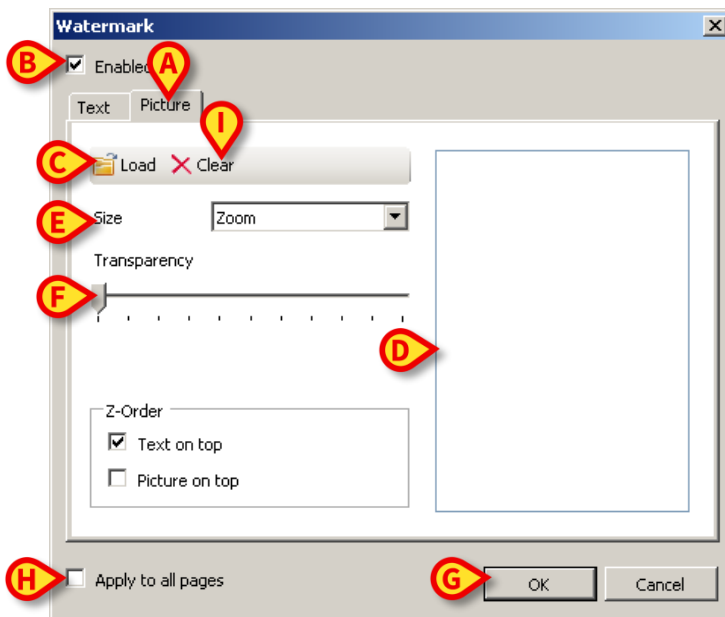

Fig 26
- Click the “**Picture**” tab indicated in Fig 26 **A**
The following window is displayed (Fig 26).
- Ensure that the “**Enabled**” checkbox is checked (Fig 26 **B**). If not, the window’s contents cannot be edited
- Click the “**Load**” button indicated in Fig 26 **C**
The image is displayed in the area indicated in Fig 26 **D**.
- Use the “**Size**” drop-down menu to set the size of the image (Fig 26 **E**)
- Use the “**Transparency**” cursor to set the transparency level of the watermark image (Fig 26 **F** - maximum transparency when the cursor is on the left)
- Click the **Ok** button (Fig 26 **G**). The watermark image is this way inserted
If the “**Apply to all pages**” checkbox is selected (Fig 26 **H**) the watermark is applied to each page in the document, otherwise it is applied only to the current page.
- Click the “**Clear**” button indicated in Fig 26 **I**